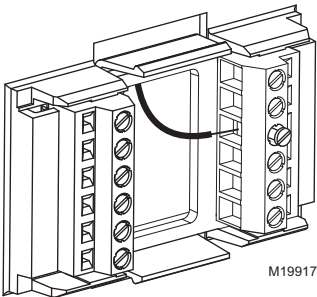

Fig. 8. Inserting wires in terminal block.
- 2. Loosen the screws for the appropriate system type selected; see Table 1. See Table 2 for terminal designation descriptions. Insert wires in the terminal block under the loosened screw. See Fig. 8.